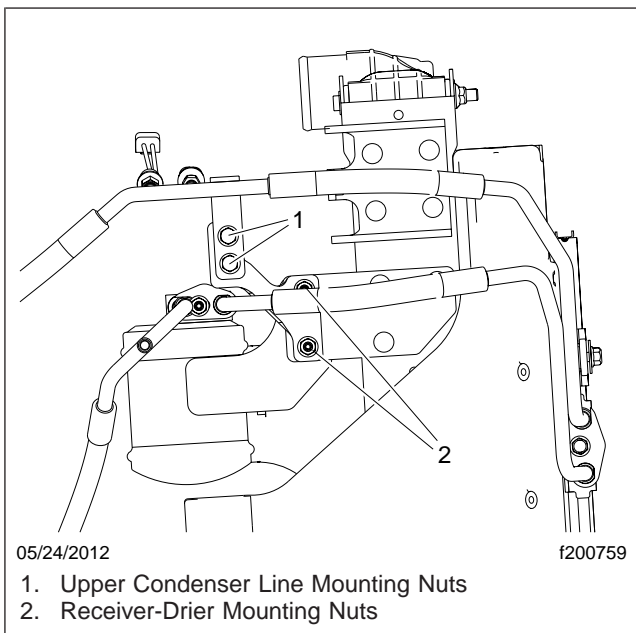

Fig. 2, Receiver-Drier Installation (typical)
- 13.1 Remove the receiver-drier and upper A/C hose mounting nuts, then free the receiver-drier. See **Fig. 2**.
- 37.2 Position the receiver-drier and upper A/C line on their respective brackets and install the mounting nuts. See Fig. 2. Tighten the nuts 14 to 16 lbf-ft (19 to 22 N-m).